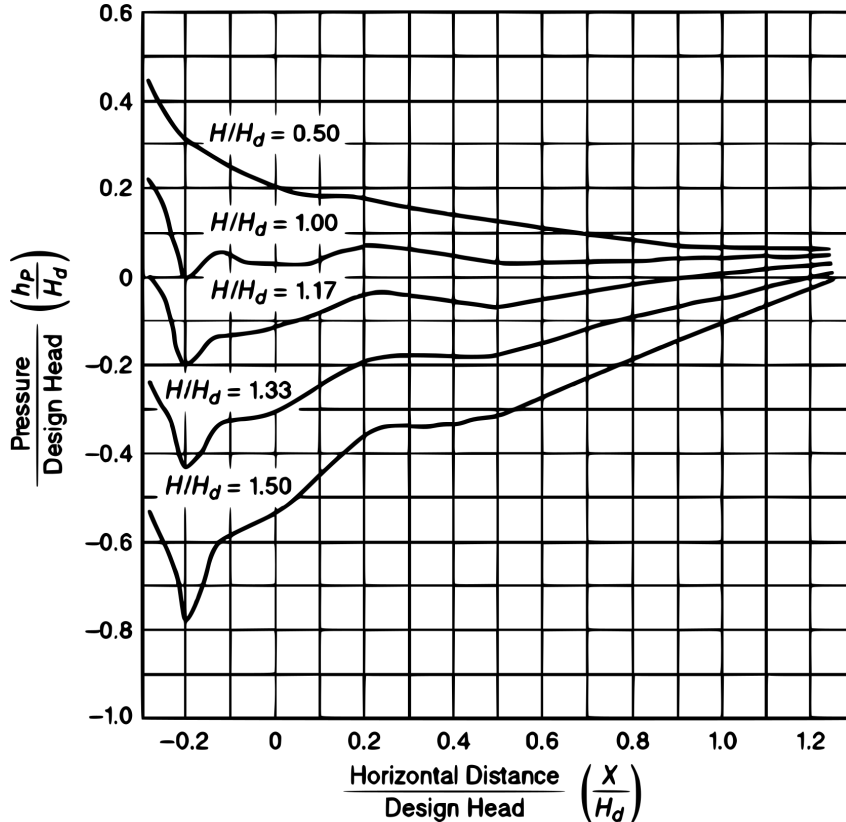

Figure 1: Non-dimensional pressure head distribution for standard ogee spillways.
Based on the pressure head charts for standard ogee spillways shown in class (and reproduced in Figure 1), the minimum pressure on the crest occurs at $x = -0.2H_d$ for all head ratios considered. The vertical axis of the chart gives the non-dimensional pressure head h_p/H_d .
4. Based on the trend of the curves in Figure 1, estimate for which head ratio H_e/H_d this cavitation threshold is reached. A reasonable range based on the plot will suffice. (Use the cavitation threshold discussed in class.)